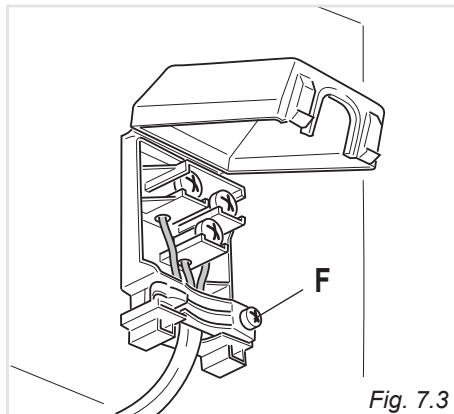

Fig. 7.3
- Open the cable gland by unscrewing screw “F” (fig. 7.3), unscrew the terminal screws and remove the cable.